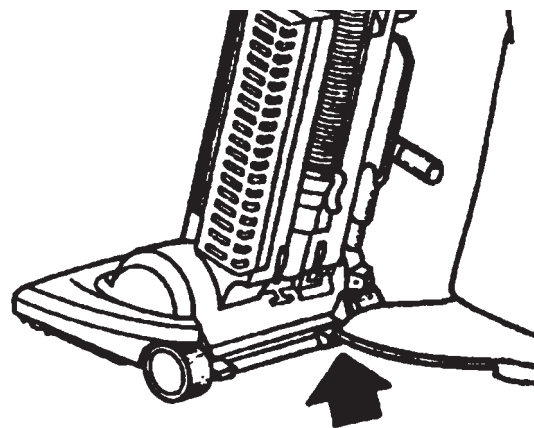

Figure 9b
4. Locate the Upright Release Pedal on the bottom back side of your Vacuum Cleaner between the 2 wheels. (See Figure 9b.)